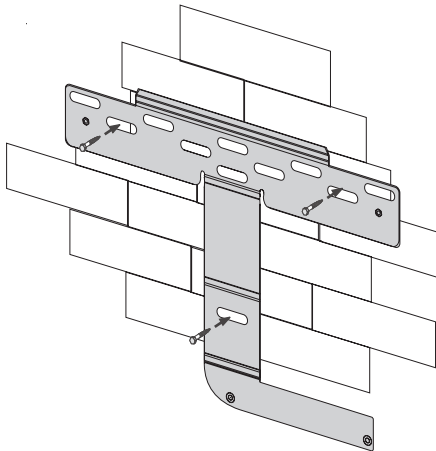
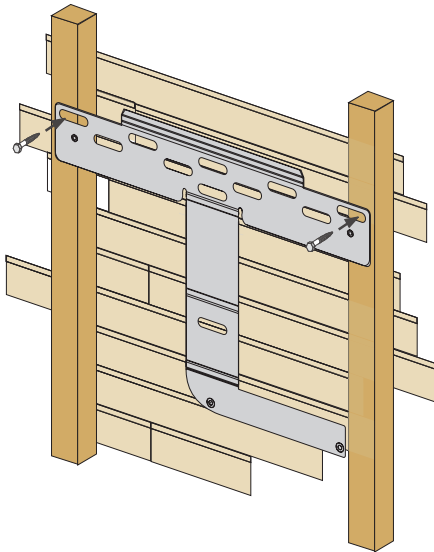

Figure 3-4 Sunny Boy with Mounting Bracket (stone wall mounting)
Figure 3-6 Sunny Boy with Mounting Bracket (wood wall mounting 2)
The Sunny Boy is shipped with a T-shaped wall-mounting bracket that is suitable for use with most walls (see Figure 3-4 through Figure 3-6). The horizontal part of the bracket has 10 holes, the 2 outermost holes are spaced on 16-inch centers for mounting on wooden stud walls. Make sure that the wall you choose to mount the Sunny Boy on is sturdy enough to support its weight (40 kg / 88 lb.) over a long period of time and that the wall is plumb. The bracket may also be mounted on stone, brick or solid walls. Be sure to use the appropriate type of mounting hardware for the wall material and ensure that the hardware is no smaller than 1/4".
5. Insert the screws through the holes in the wall-mounting bracket and into the holes you drilled in the wall. Tighten the screws until the bracket is held firmly against the wall (see Figure 3-4). Do not overtighten the screws.